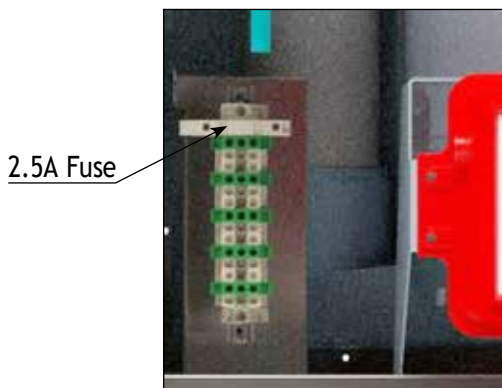

Fig. 24 - Terminal Strip Location
- A 2.5A fuse is also located on the terminal strip, to protect the outputs. Refer to *Fig. 24 on page 40*.
1. Connect a dedicated 120 VAC/15A service to the line voltage terminals located internally in the lower left corner, as shown in Fig. 24 below.
2. Connect the CH1 & CH2 circulator wiring to the respective line voltage terminals located internally in the lower left corner, as shown in Fig. 24 on the left. This circulator is typically used to supply heat to the central/ space heating loop.
3. Connect the DHW circulator wiring to the line voltage terminals located internally in the lower left corner, as shown in Fig. 24 on the left. This circulator is typically used to supply heat to an indirect hot water heater.
4. Connect the boiler system pump wiring to the line voltage terminals located internally in the lower left corner, as shown in Fig. 24 on the left.